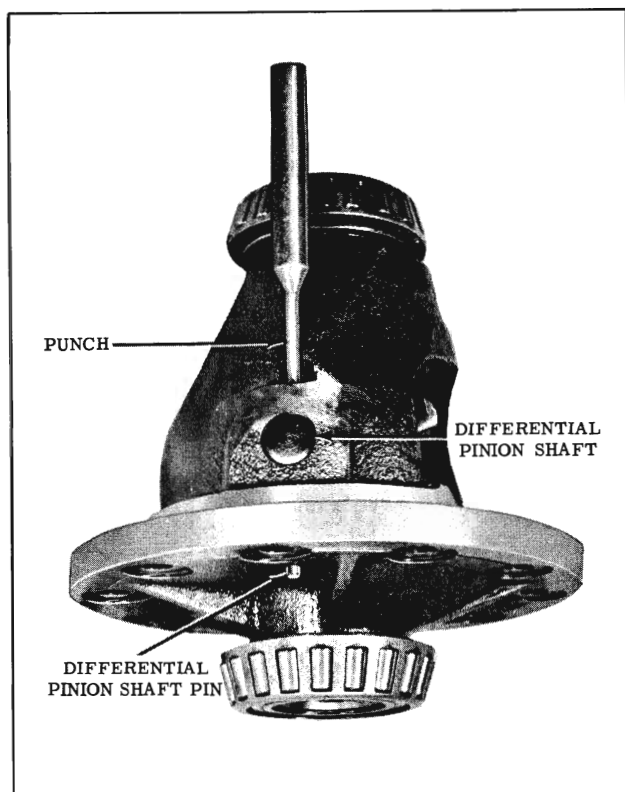

Fig. 6-113 Removing Shaft Pin
2. Drive pinion shaft spring pin from case. (Fig. 6-113)